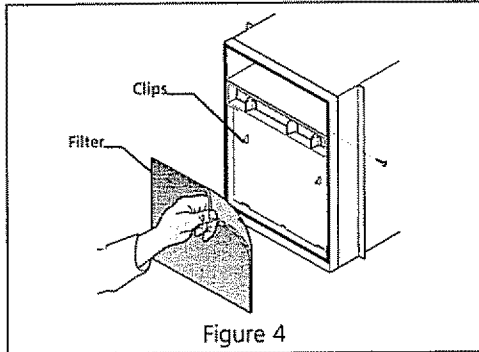
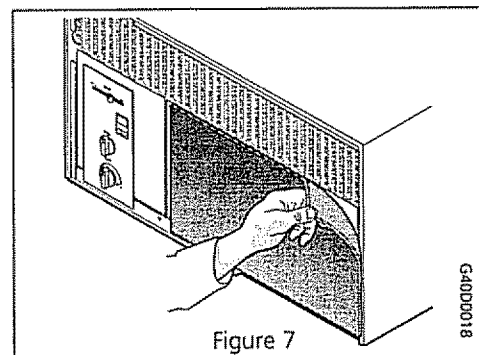

Figure 4
Figure 7
- Remove the front retaining screw on each side of the cabinet with a standard #2 Phillips screwdriver. Push the front down and pull toward you to release the front from its retaining lock. Pull the filter from its recess (Figure 7), or pull the filter straight off of clips (Figure 4)